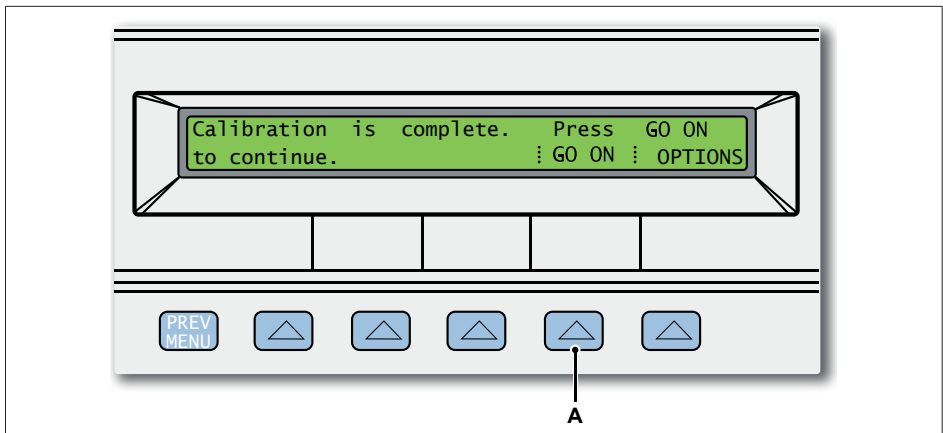

Fig. E.19 Fluke 5522A Calibration is completed
9. After the zeroing routine is completed (this take several minutes), select the **GO ON** button to return to normal operation mode of the instrument (see Fig. E.19).